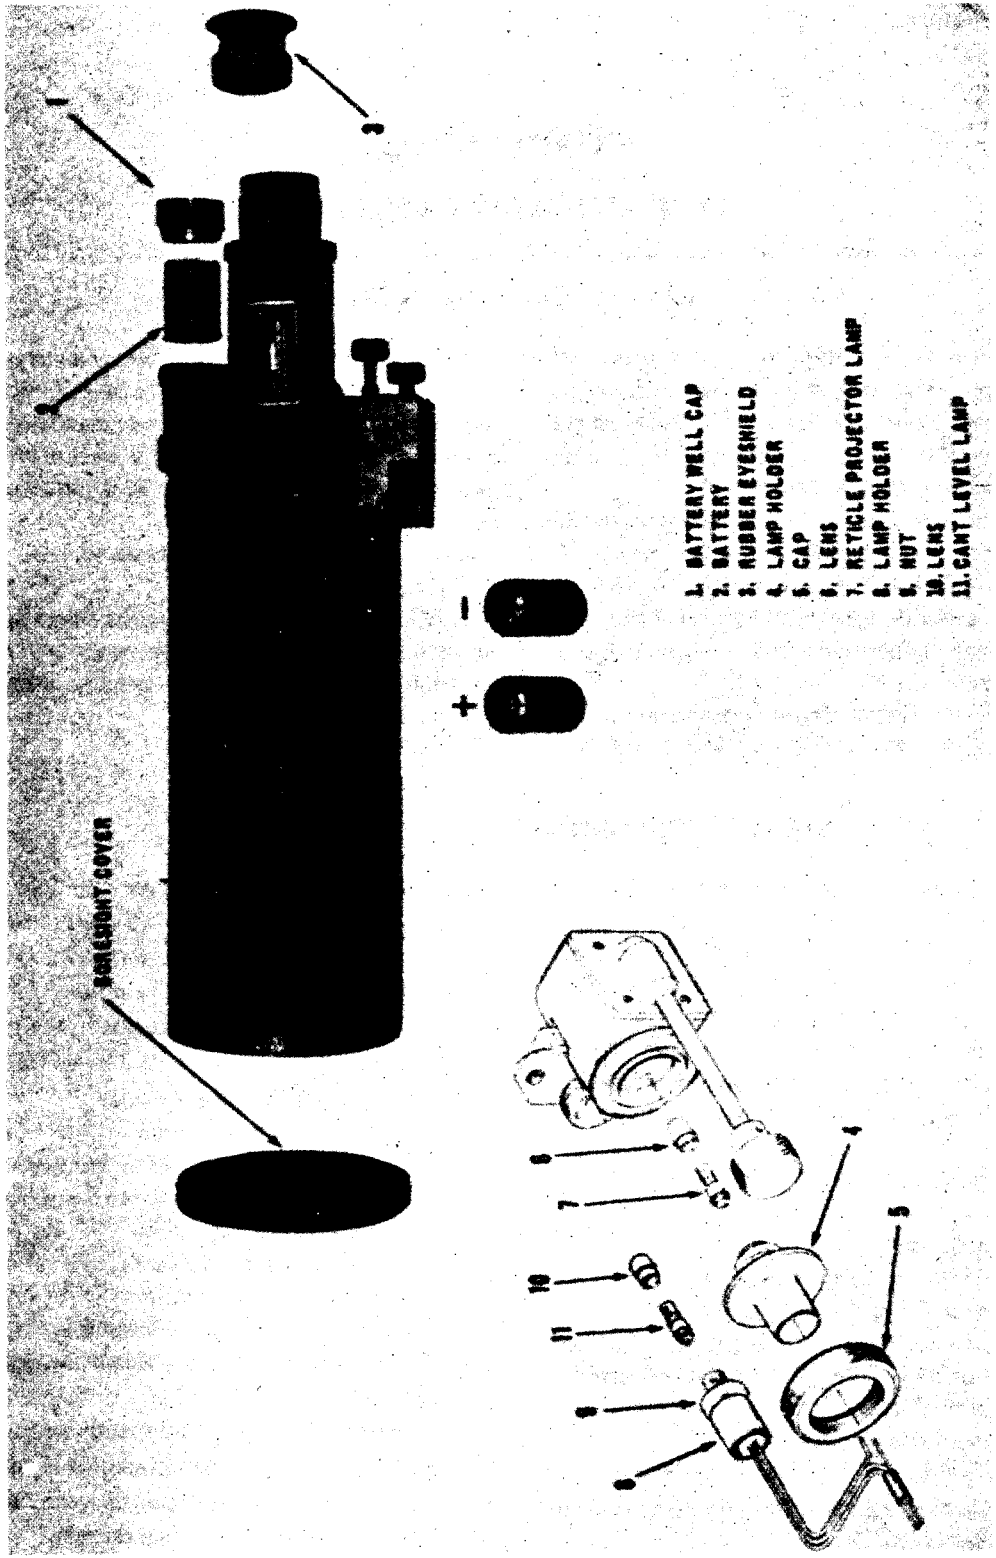

Figure 3. Disassembly.
9. Disassembly. *a. Battery (Fig 3).*
- (1) Place switch in OFF position.
- (2) Remove battery cap from the battery housing by turning in a counterclockwise direction (1).
- (3) Remove battery (2).
b. Rubber Eyeshield (Fig 3). The rubber eyeshield (3) is removed by forcefully pulling it from the eyepiece assembly.
c. Reticule Lamp (Fig 3).
- (1) Remove boresight cover.
- (2) Remove lamp holder (4) by unscrewing cap (5) from reticule projector housing.
- (3) Unscrew lens (6) from lamp holder.
- (4) Remove lamp (7).
- d. Cant Level Lamp (Fig 3).*
- (1) Remove lamp holder (8) by unscrewing nut (9) from level assembly.
- (2) Unscrew lens (10) from lamp holder.
- (3) Remove lamp (11).